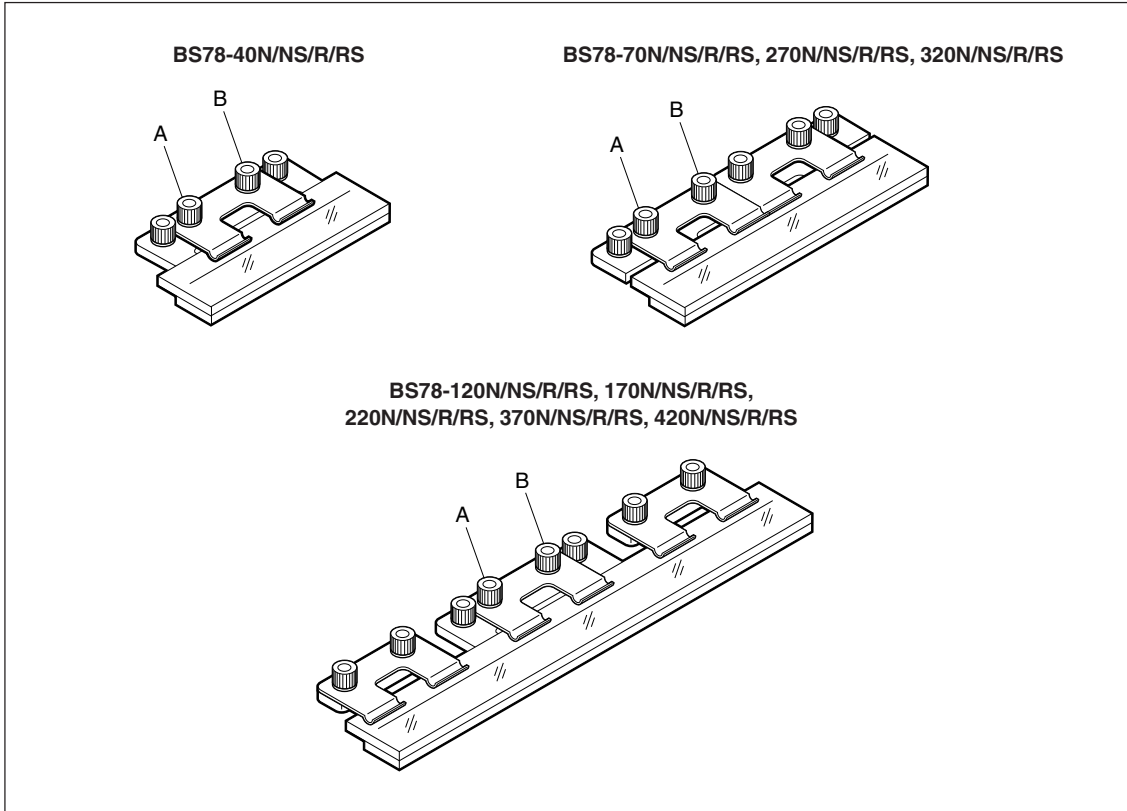

Fig. 3-12
- 5 Leave the scale in the condition of Fig. 3-12 for one hour or more until the scale temperature stabilizes.